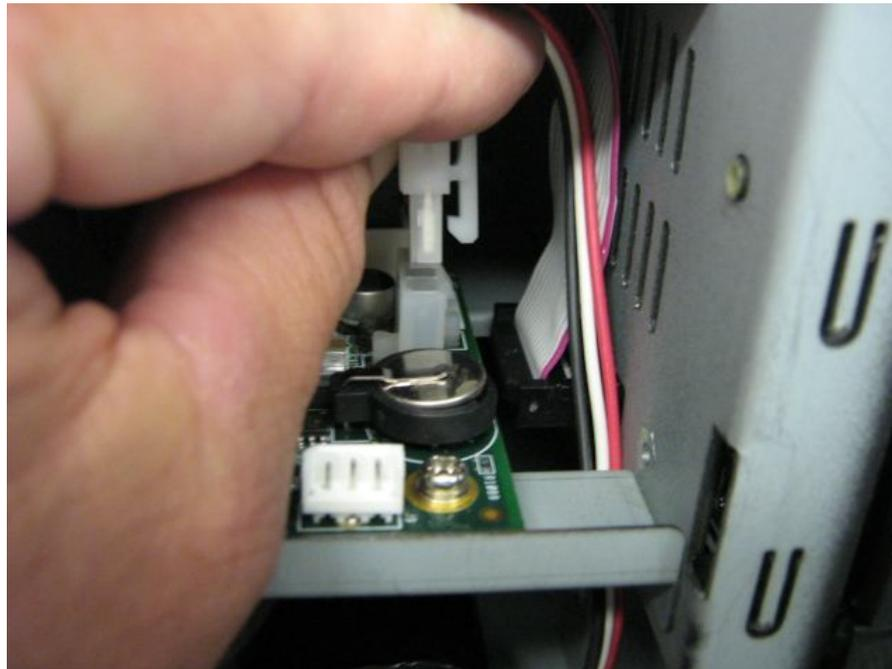

Figure A-7 Align the Battery Plug with Connector J11
4. Align the battery plug with connector J11 as shown in Figure A-7 and insert it fully into the socket.